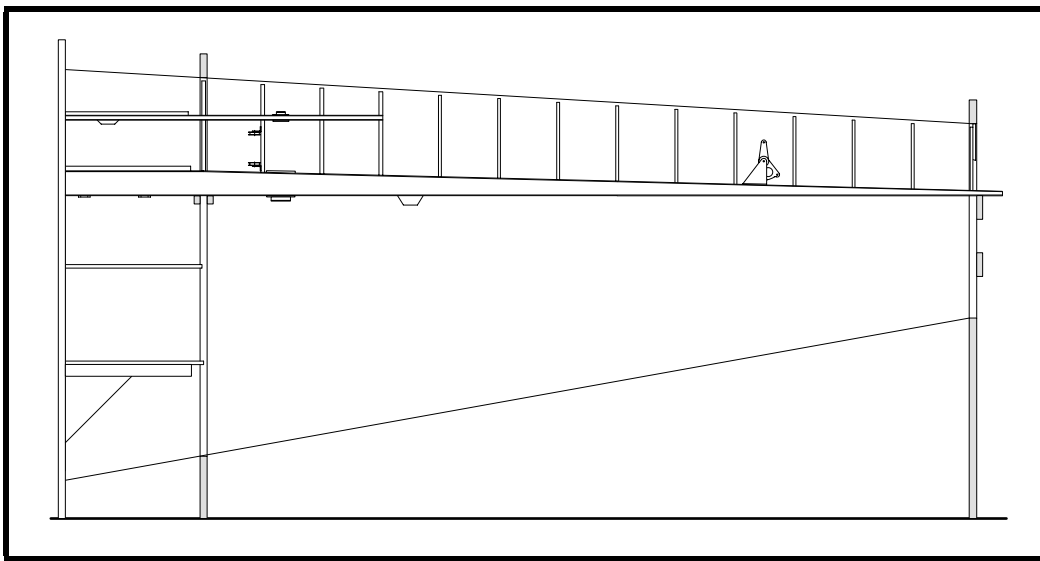

Figure 8
- ❑ Clamp the remaining leading edge ribs in place as shown in Figure 8. Sand the aft faces of the ribs as necessary for alignment with the leading edge alignment string.